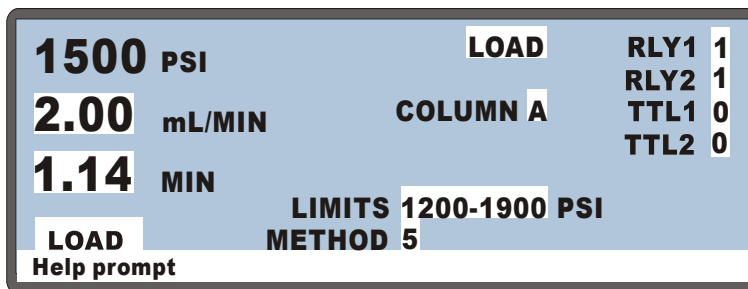

Figure 3-1. Main Screen: Setting Pressure Limits
- When the pump is running under Local Direct control, enter the pressure limits on the **MAIN** screen (see Figure 3-1).
1. Go to the **MAIN** or **METHOD** screen and move the cursor to the **LIMITS** field (see Figure 3-1).